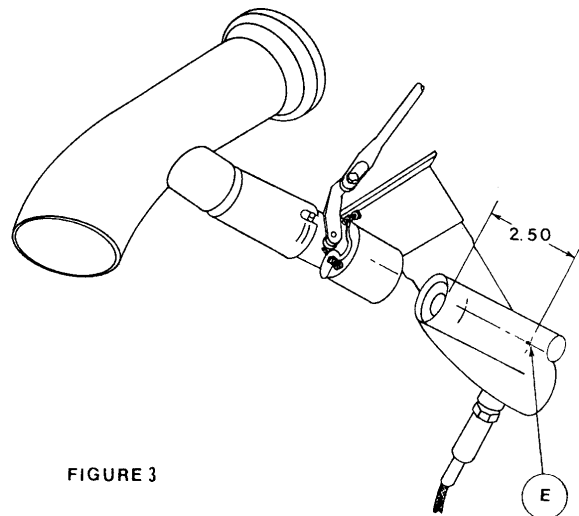

FIGURE 3
- (E) Remove stack and slide wastegate upward and off the exhaust stack stub by—pass tube. Measure exactly 2.50 inches from the end of the by—pass tube toward the exhaust stack and mark. See Figure 3, Point (E).